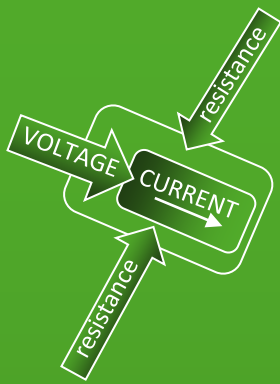

Figure A7.1 Voltage, current, and resistance within a conductor (wire). Power is the rate at which the energy is generated or consumed.
- ❑ See Figure A7.1 to visualize (V) and (I).
- ❑ The standard unit for power is the **Watt (W)**. The Watt is equal to 1 Joule (J) per second (s), so